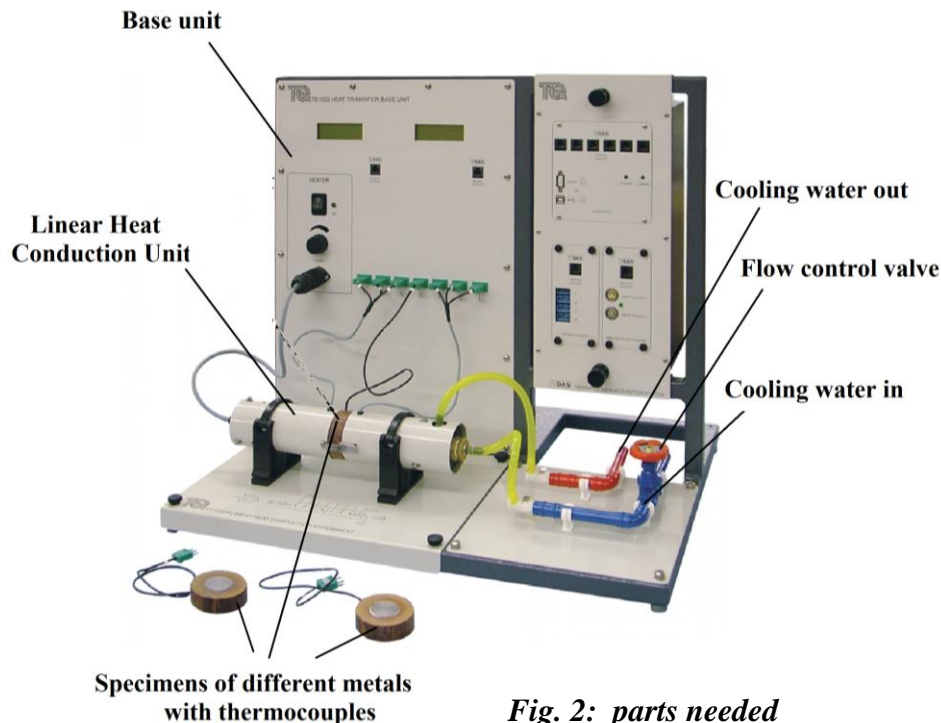

Fig. 2: parts needed
The main parts of the apparatus are shown in fig. 2:
3. Fit the linear heat conduction experiment as shown in fig. 2.